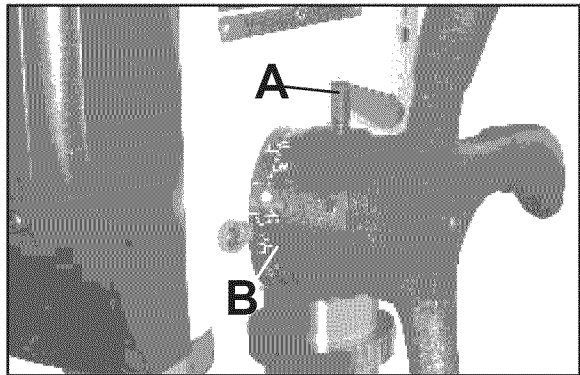

Figure 16
1. Loosen the depth stop collar lock (A-Figure.16).
3. Turn the depth stop collar clockwise until the collar stops (B-Figure.16).
1. With the spindle in the up position, loosen the depth stop collar lock (A-Figure.16) as shown.
2. Turn the depth stop collar clockwise until the pointer reads the desired drill depth on the scale (B-Figure.16).